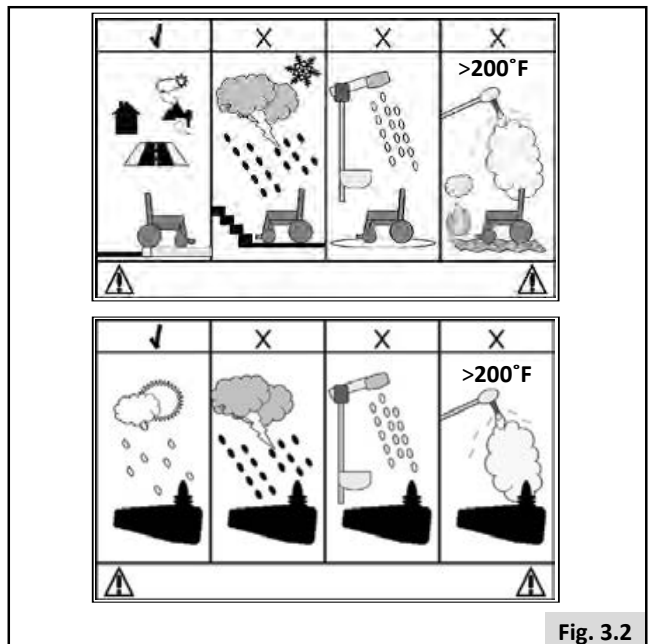

Fig. 3.2
3.2 Area of application: The user environment, Fig. 3.2